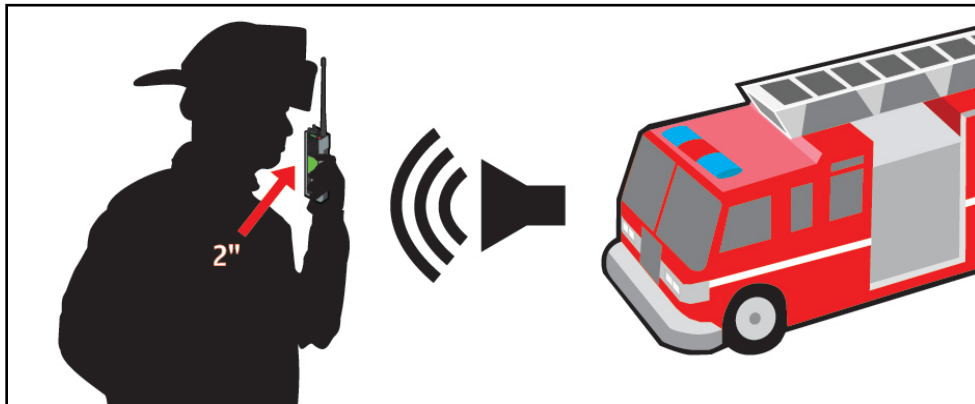

Figure 8-8: Using the Noise Cancellation Feature
- Talk within two (2) inches of primary microphone (see Figure 8-8).
- If possible, face the noise source when talking into the radio (see Figure 8-8).